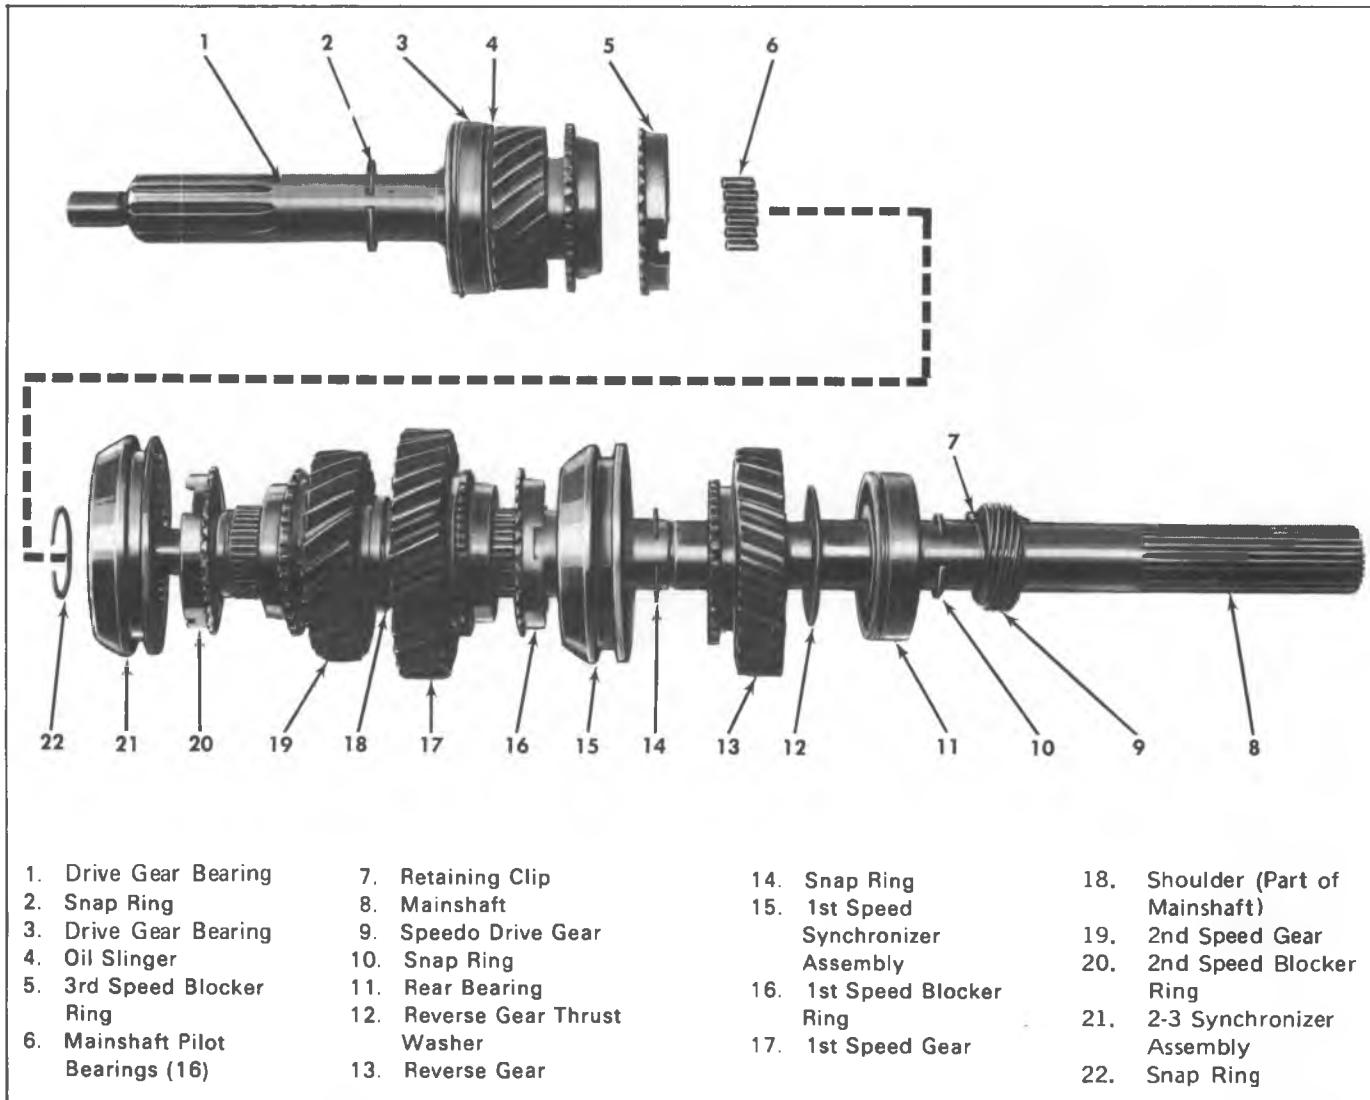

Fig. 7B-4C—Drive Gear and Mainshaft Assembly
3. Place the three keys and two springs in position (one on each side of hub), so all three keys are engaged by both springs (Fig. 7B-5C). Slide the sleeve onto the hub aligning the marks made before disassembly.